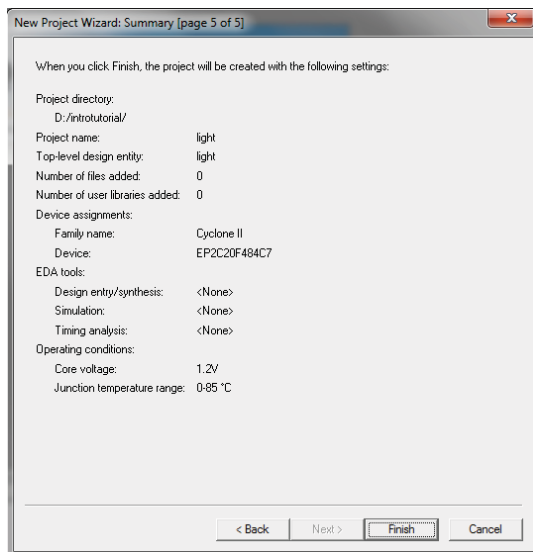

Figure 9. Summary of the project settings Note.
6. A summary of the chosen settings appears in the screen shown in Figure 9.